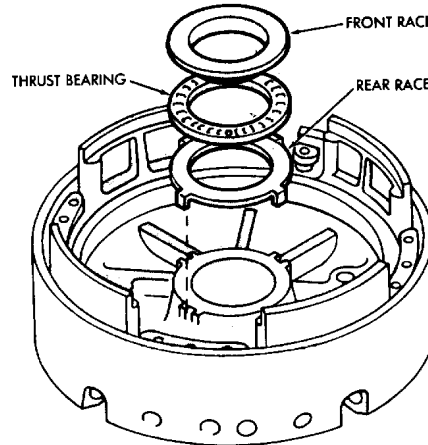

Fig. 3 Removing Support Thrust Bearing And Races
- (3) Remove thrust bearing front race, thrust bearing and rear race (Fig. 3).